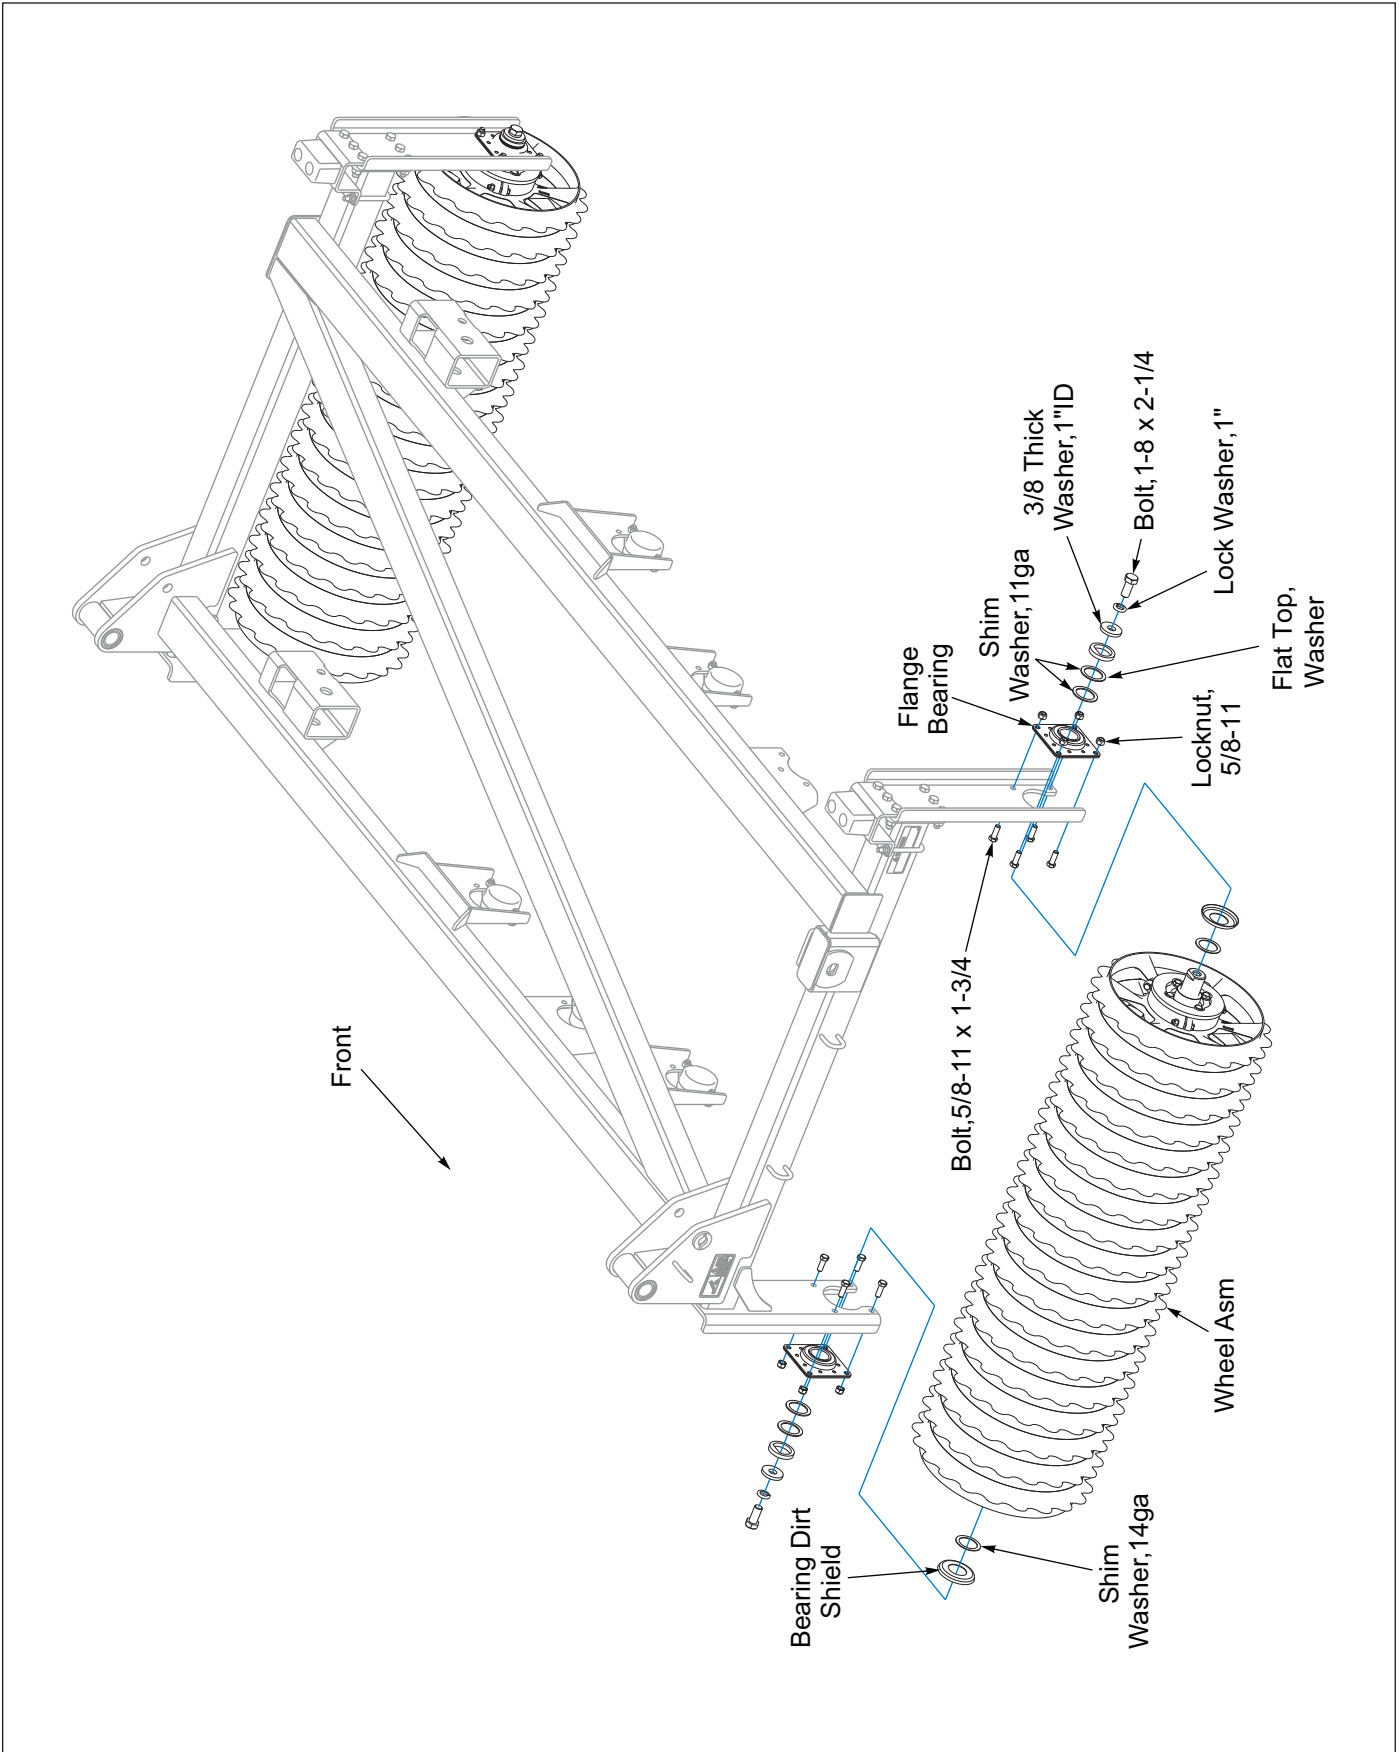

Figure 2-47: Left Hand Wing Roller Installation
2. Insert 5/8-11 x 1-3/4 Bolts into Frame Bearing Hanger. Place a Dirt Shield on each end of the Roller Stub Shaft so that the cupped portion will be towards the Bearing. Slide the Bearing onto the Roller Stub Shaft. Lift up while supporting the Roller Assembly so that the Bearing can be assembled with Locknuts onto the outside of the Frame Bearing Hanger. Bearings should be tight against the Bearing Hanger. Push the Dirt Shield against the Bearing inner ring and check the gap on each end between the Dirt Shield and Roller Stub Shaft Shoulder. Remove Bearing and add Shim Washer(s) as necessary. **See Figures 2-47 and 2-48.** The bearing inner ring has an internal rubber mount to allow for up to 1/16" of excess gap.